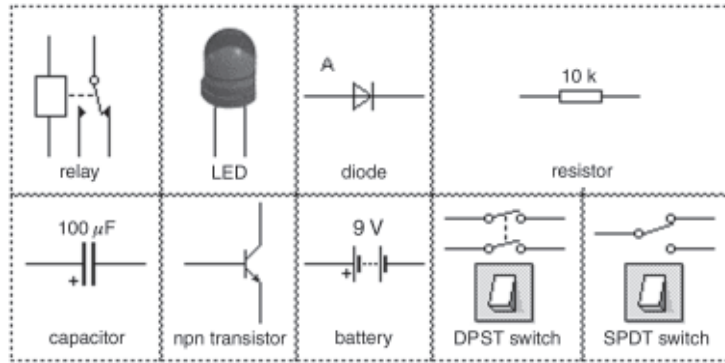

Figure 12
Figure 12 below depicts a number of electrical/electronic components.
- b. i.** Listed below are **five** functions which can be identified with the specific electronic components pictured in Figure 12.